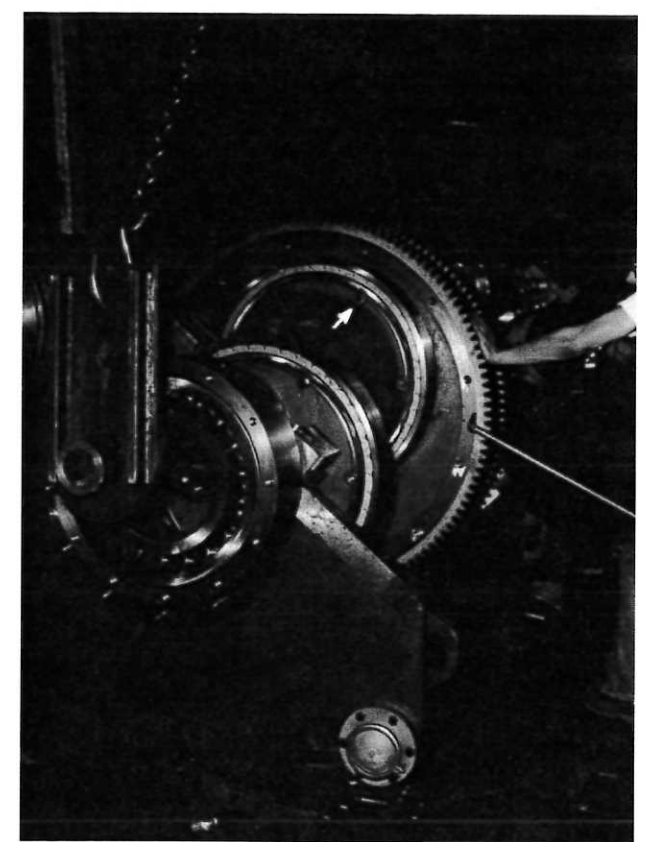

FIGURE 20
4. Bar eccentric so reference point moves back toward operator to approximately 20° his side of vertical as shown in FIGURE 20, page 22.